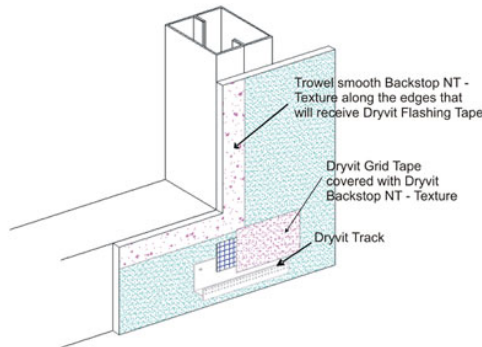

Figure 18
- 4) While the Backstop NT - Texture is still wet, using a trowel or spatula, smooth out the Backstop NT - Texture around all window and door perimeters and other areas that will later receive Dryvit Flashing Tape - Figure 18.
- 4) While Backstop NT - Texture is still wet, using a trowel or spatula, smooth out the Backstop NT - Texture around all window and door perimeters and other areas that will later receive Dryvit Flashing Tape – Figure 18.